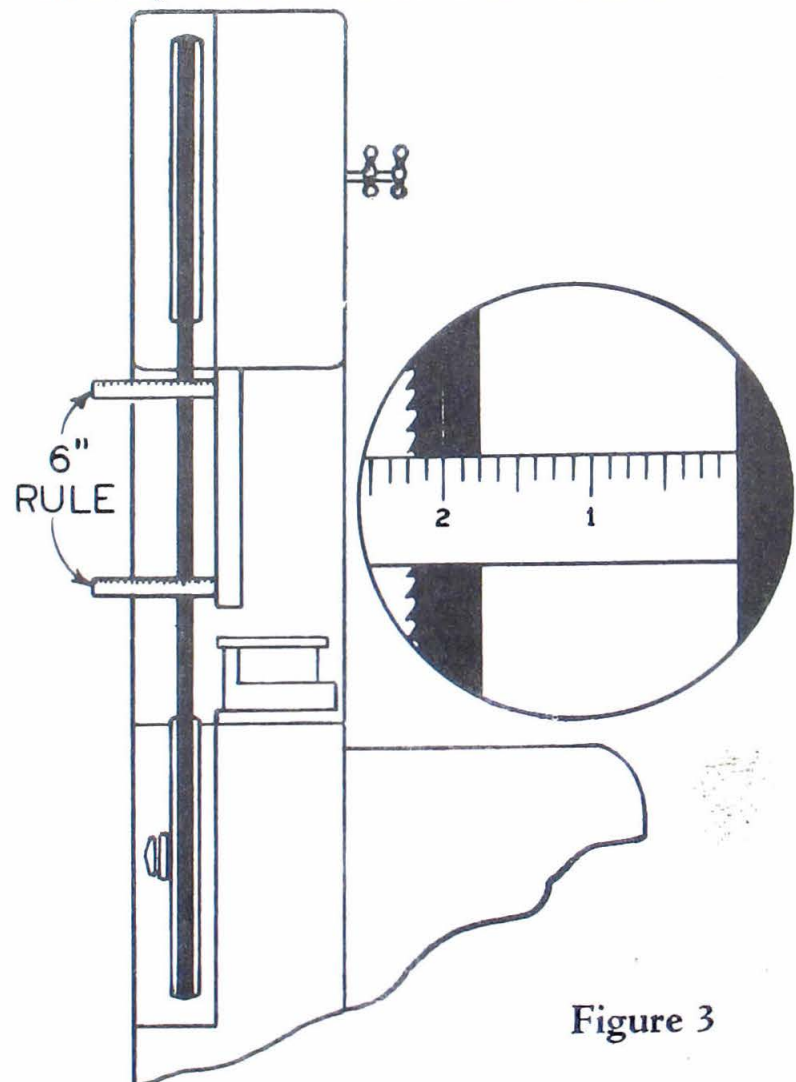

Figure 3
3. If necessary shim the base of the machine until the band runs parallel to the face of the post. When properly shimmed the center of the blade will be 2 inches from the face of the post. (see fig. 3). This dimension must be constant at both upper and lower ends of the post with post in lowered position. If the saw band is not the correct distance from post, loosen set screw holding upper wheel and move wheel in or out to correct, then reshim base until band is parallel.